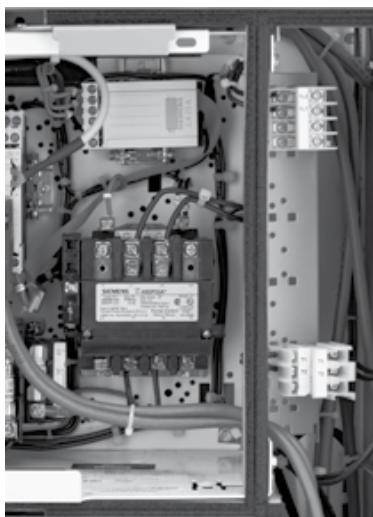

Figure 65
1. To wire the unit, rotate the terminal block swing plate as shown in Figure 65.